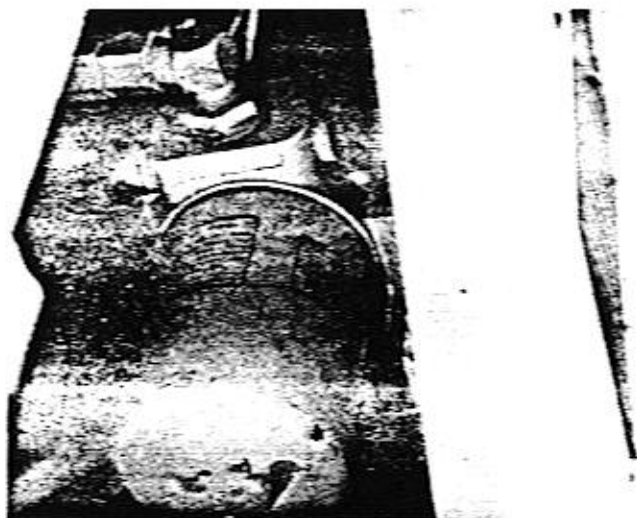

Figure 11-6
There are spin-on hydraulic oil filters located in the engine compartment, accessible through the access doors. All filters should be replaced. MW-6520 machines have three (3) 10-micron filters and two (2) 3-micron return filters. MT-6520 machines have two (2) 3-micron return filters and two (2) 10-micron suction filters. Unscrew the old filters and discard. Fill each new cartridge with clean hydraulic oil (lightly oil the gasket on the filter) and install. Tighten $\frac{1}{4}$ of a turn beyond gasket contact. Check for leaks after starting the engine. See Figure 11-6, 11-7, and 11-8. Do not fill horizontally mounted filters with oil before installation.